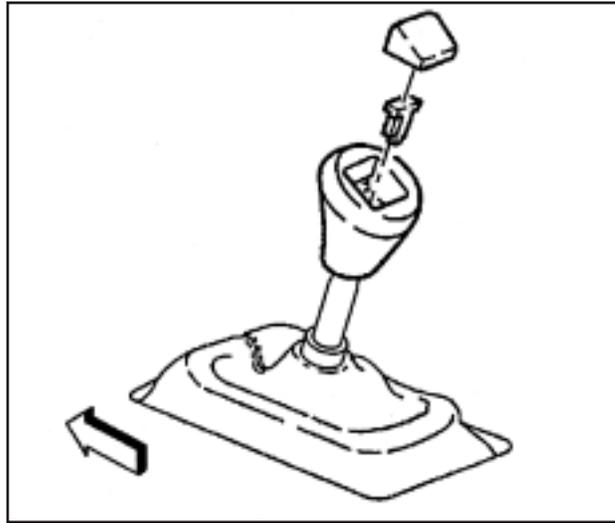

FIGURE 1
1. Place the shifter into fourth gear. Using a small flat blade screwdriver at the front edge of the shift pattern indicator, carefully pry out indicator from shifter knob. Using a pair of Vise-Grips, clamp tightly and pull the metal "T" retainer up and out of the knob. **Note: The "T" retainer is usually very difficult to remove. Use care to avoid damaging other components. Tip:** While pulling upward, rock Vise-Grips from side to side or tap side of Vise-Grips with a hammer. Unscrew knob from shift lever. **(Refer to Fig. 1 on page 4)**